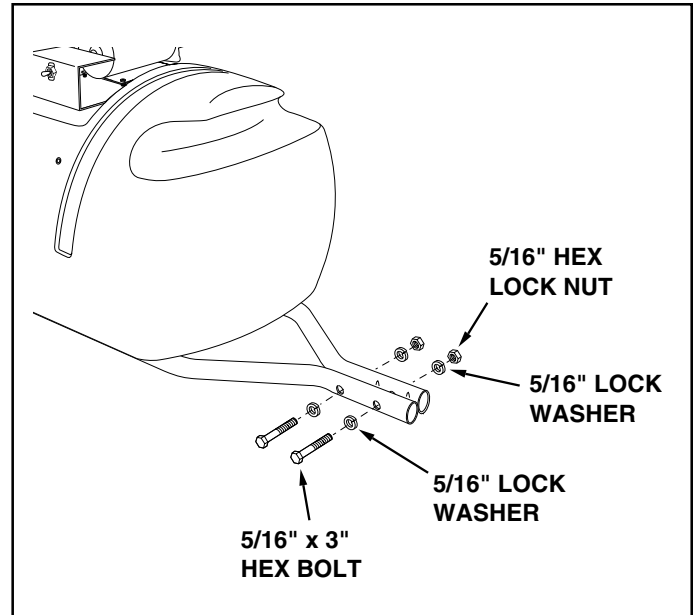

FIGURE 3
4. Fasten the hitch tubes together at the front using two 5/16" x 3" hex bolts, four 5/16" lock washers and two 5/16" hex lock nuts. **Do not tighten yet.** See figure 3.
Tighten the two bolts which fasten the front of the hitch tubes together. See figure 3.